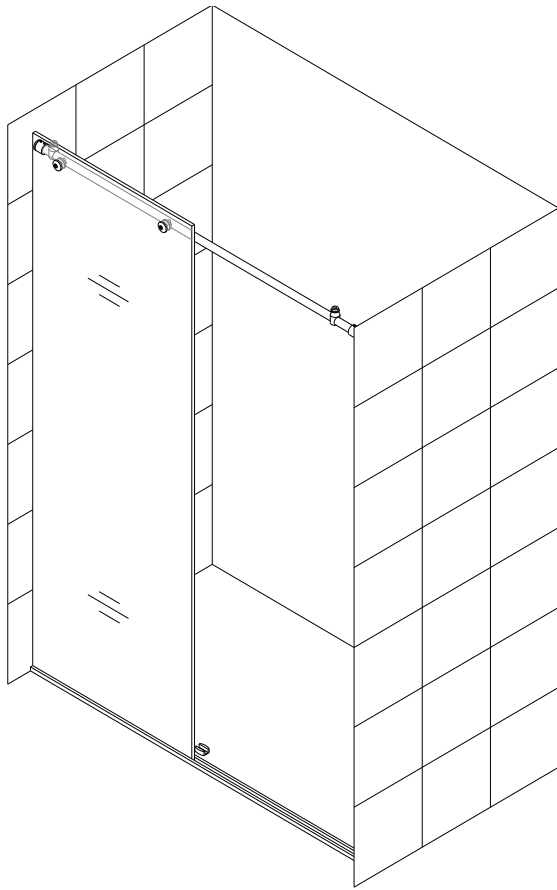

Fig. 9
c) Apply a small amount of silicone to the **Threshold** channel. Place the **Stationary glass panel** back in position and attach both female parts of the **Wall brackets** to their male parts on the walls. Tighten the fastening screws on the **Wall brackets** to secure the running rail to the walls. See fig. 9 for details.